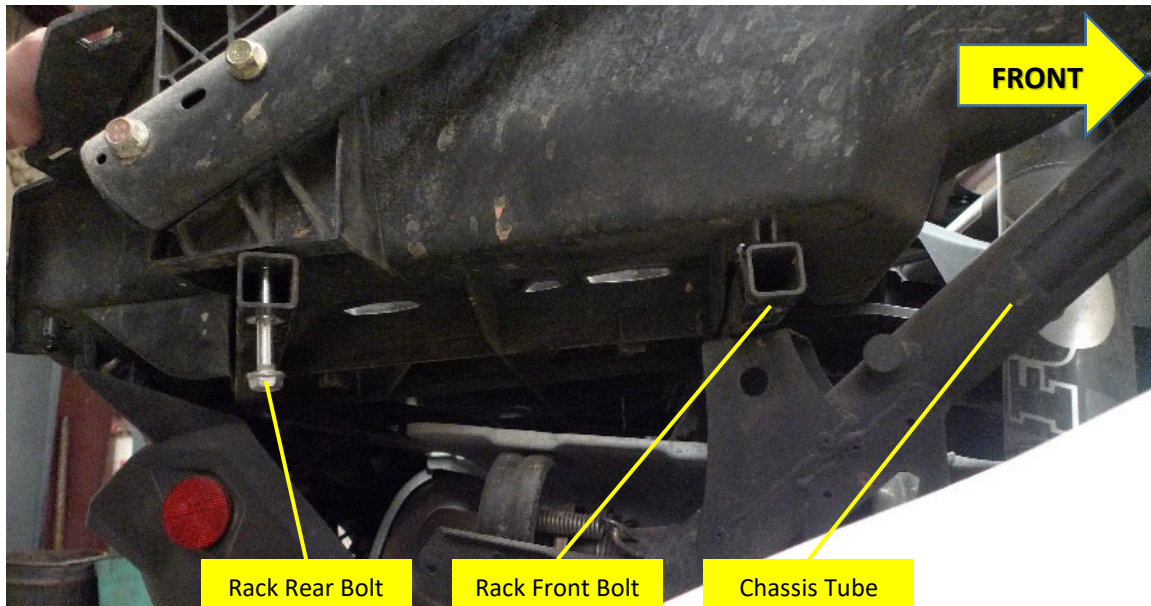

Figure 6 – Air Tank Bracket Mounting Locations (side view)
- 8.9.3. Remove rear bolt holding Rack; same as Figure 6. Do not discard this bolt; it will be re-used.